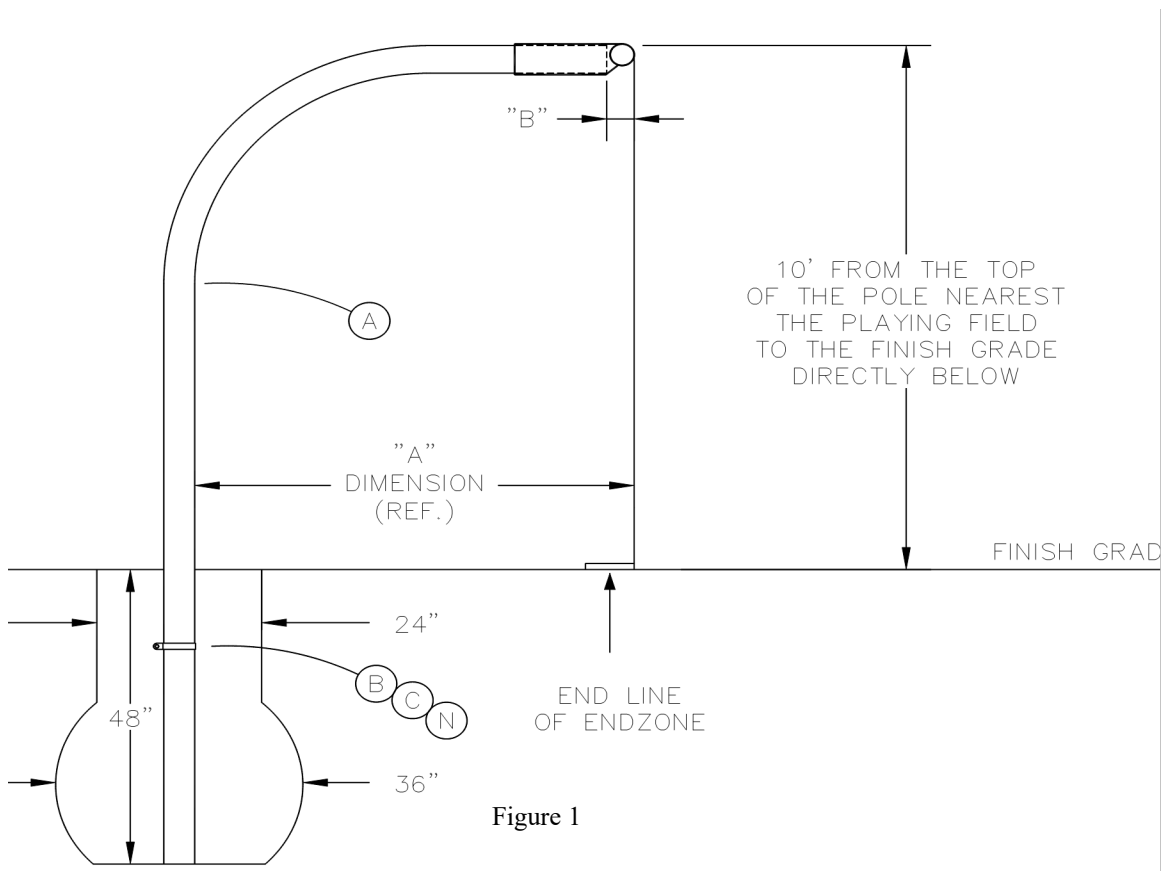

Figure 1
1. You will need to locate each gooseneck pole so that it is centered on the playing field. See chart for the distance behind the end line to locate the pole for each model. Dig a 24" diameter hole that is a minimum of 48" deep at each of these locations, it is recommended to bell out the bottom of the hole to 36" to strengthen the footing. See Figure 1. If you are using Bison ground sleeves refer to those instructions for the proper hole depth and diameter.
2. Make sure that you have a broomstick or similar pole to vibrate air pockets and settle the concrete. The 24" diameter by 48" deep hole with a bell shape per figure 1, will require approximately .73 cubic yards (20 cubic feet) of 3000 PSI concrete. This equates to approximately 47 60# bags of premix concrete. You will need to adjust the amount depending on the size of hole you prepared. Have the proper amount of concrete before you start to ensure proper strength of the footing.
4. Attach the *Band Clamp (B)* with *5/16" X 2" Carriage Bolt (C)* and *5/16" Hex Nut (N)* approximately 2 feet from the bottom end of the *Gooseneck Pole (A)* (below ground level). Mix concrete according to the directions on the bag. It is advantageous to have the mixture "wet". This will increase your working time and allow batches to mix in the hole. Pour the hole to just below ground level. Insert pole into concrete while vibrating concrete to allow it to surround the pole completely. Remember to brace gooseneck pole to maintain 10' height and field orientation as previously described. See Figure 1.